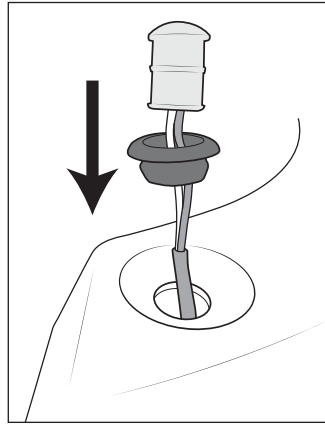

Figure 8
1. Install marker lights through grommets into flares (fig. 8). TIP: A little glass cleaner will help lubricate the grommets.